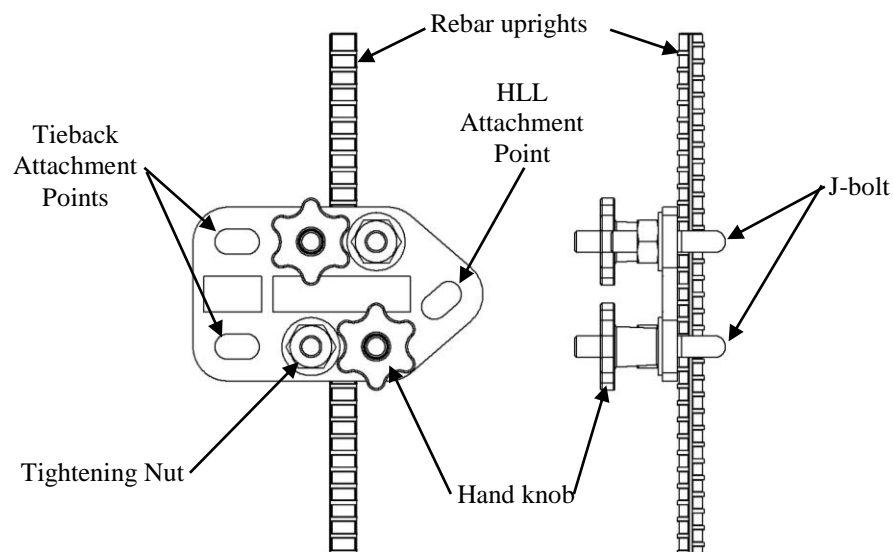

Fig. 1-parts of the HLL Rebar Bracket 3088-011
1. Refer to the Skyline™ HLL design document to verify the correct height of the HLL above the walking working surface. Measure along the selected rebar for the attachment of the bracket upwards for the height of the horizontal lifeline attachment point. This is the height at the “nose” of the bracket where the HLL will attach to (see Fig. 1 below).
4. If the rebar has been tied off above where the bracket will be so that it can not slide down the rebar, remove the nuts and washers from the end of the j-bolts. Push the end of the bolts out of the hole in the back plate. Holding the bracket at the correct height, twist the bolt back into place, and replace the nut and washer (see Fig. 1 below).